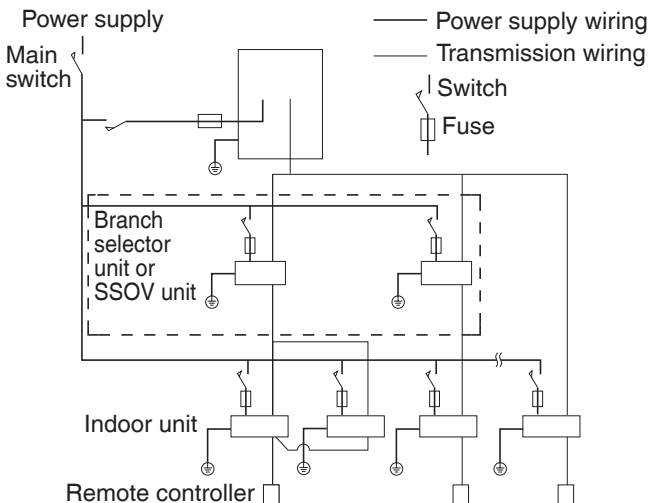

Fig. 25
- The power wiring should be installed to meet local and national code. Fig. 25 is one example of a wiring configuration.